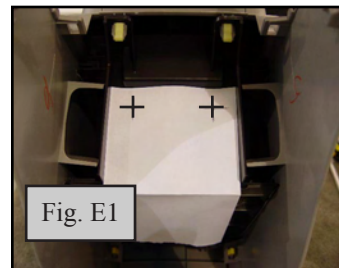

Fig. E1
- ii. Align template as shown using castings on either side for alignment then center. (Fig. E1)